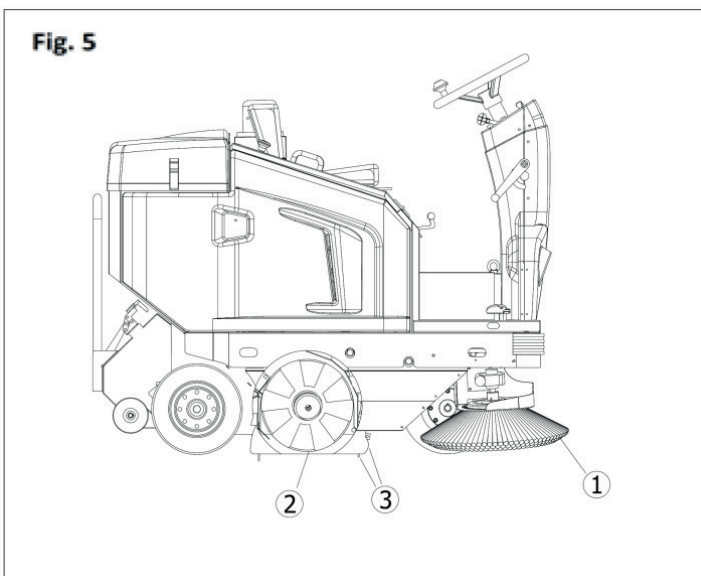
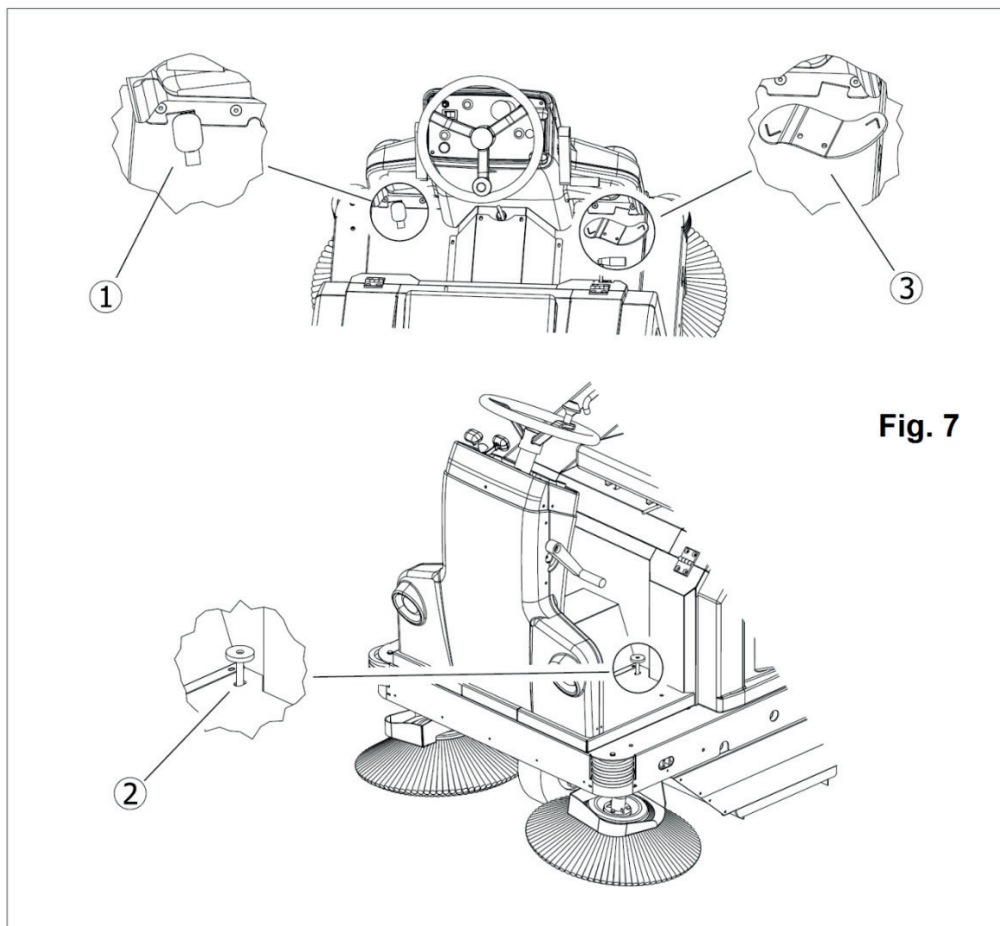

Fig. 5
Fig. 7
The side broom, **Detail 1 Fig. 5**, acts as a conveyor for the dust and debris and is used exclusively for cleaning edges, corners, profiles, and must be disabled (raised) once they have been cleaned to avoid lifting unnecessary dust and because the side broom cleans less thoroughly than the central broom.
The central broom **Detail 2 Fig. 5** is the main part of the machine, which allows dust and debris to be loaded into the debris hopper; it is possible to request different bristle stiffness and type, depending on the type of material will be collected or the type of floor; the height can be adjusted as the bristle length wears down (see "CHAPTER 13 - ROUTINE MAINTENANCE").
During operation, the filtering system works so that the machine does not lift dust into the surrounding environment, and is obtained by a bag filter **Detail 2 Fig. 5/A (standard version)** or by nr. 8 cartridge filters **(Optional) Detail 3 Fig. 5/A.**
See **Detail 3 Fig. 5.** The gaskets surround the central broom and are essential to correct machine operation, as they make the suction effect possible; it is therefore very important to check them very frequently.
Pressing the flap-lift pedal, **Detail 2 Fig. 7**, to lift the front gasket **Detail 3 Fig. 5**, to collect bulky objects. Accordingly, it is possible to collect leaves, cigarette packs, etc...
Press this pedal **Part. 1 Fig. 7** to make the machine slow down and stop (until it is released).
**Detail 3 Fig. 7.** This pedal is used to place a running machine in forward or reverse drive. Press the pedal gradually, never using abrupt movements, for a smooth start-up and to speed up gradually. For safety reasons, the reverse drive speed is very slow. When the machine is in neutral, it can be pushed forwards or in reverse.
- Press the drive pedal with your right foot **Detail 3 Fig. 7** in the forward drive direction (see arrow on pedal). Press the pedal gradually, never using abrupt movements, for a smooth start-up and to speed up gradually.
- Press the drive pedal with your right foot **Detail 3 Fig. 7** in the reverse drive direction (see arrow on pedal). Press the pedal gradually, never using abrupt movements, for a smooth start-up and to speed up gradually. For safety reasons, the reverse drive speed is very slow.
- Release the drive pedal **Detail 3 Fig. 7**; you will notice that the machine tends to stop within a short distance, if you wish to stop press the brake pedal abruptly **Detail 1 Fig. 7**.